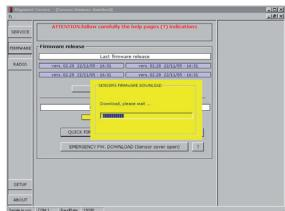

Fig.28
6. The upgrade will start, as shown in figure 28.